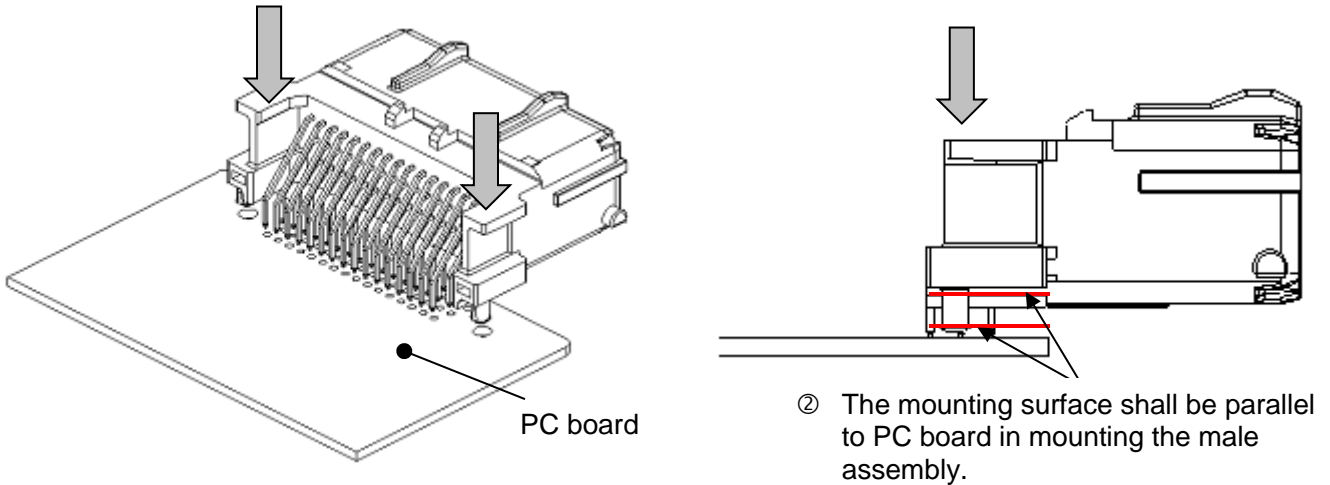

Fig.22
- ① Do not deform and damage the male pin of the male assembly.
- ② When the male assembly is mounted on a PC board, check that the directions of the connector (the male pin and the boss) and the PC board are proper and mount it on the PC board with care under the condition that the mounting surface is parallel to the PC board. (Fig.22)